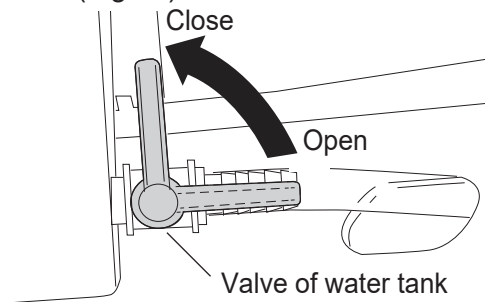

Fig.26
1. Close (OFF) the valve of water tank during the throttle lever is RUN position, then check that water dose not come out from the side of blade. (Fig.26)